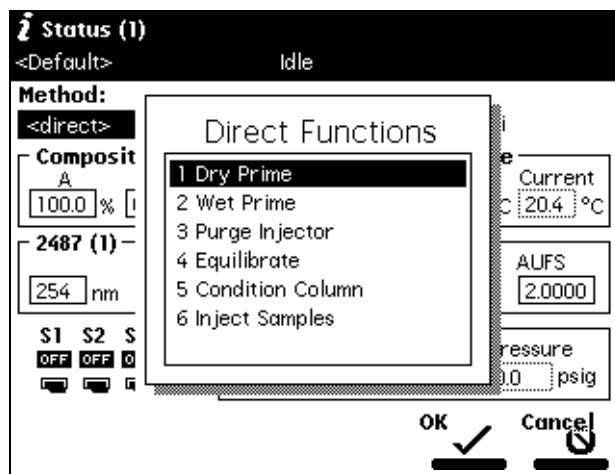

Figure 4-7 Direct Functions Menu
2. Press the **Direct Function** screen key. A list of direct functions appears, as shown in Figure 4-7. Table 4-2 describes each of the direct functions.
5. Press the **Direct Function** screen key on the Status screen. The Direct Functions menu appears, as shown in Figure 4-7.
2. Press the **Direct Function** screen key in the Status screen. The Direct Functions menu appears, as shown in Figure 4-7.
3. Press the **Direct Function** screen key. The Direct Functions menu appears (see Figure 4-7).
1. Press the **Direct Function** screen key in the Status screen. The Direct Functions menu appears (see Figure 4-7).
2. Press the **Direct Function** screen key. The Direct Functions menu appears (see Figure 4-7).